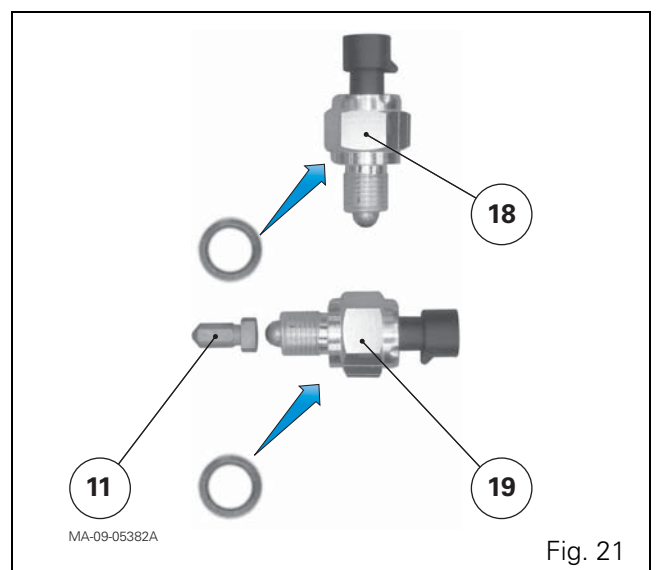

Fig. 21
- the switch (18) (Fig. 21) onto the cover plate (20)
- the pushrod (11) and the switch (19) (Fig. 21) to the ParkLock unit (7).
55. Fit the solenoid valves (21) (22) in the same positions as before disassembly.
56. Tighten the following onto the solenoid valve (22):